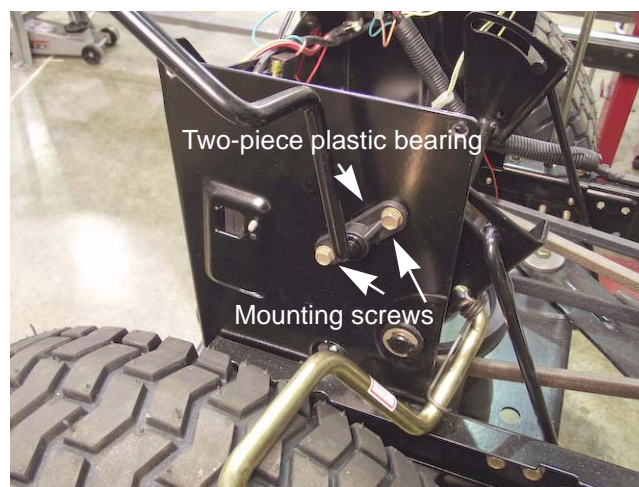

Figure 8.43
6. Remove the two 1/4-20 screws that secure the two plastic bearing halves to the right side of the seat frame below the right fender. Set the parts aside. See Figure 8.43.